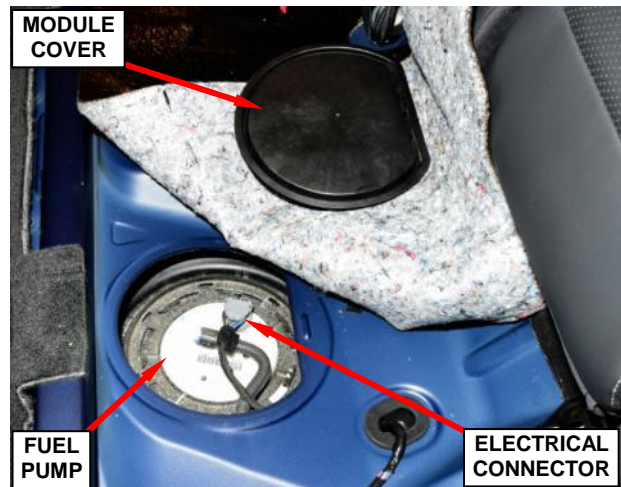

Figure 4 – Fuel Pump Module
10. Remove and save the fuel pump module cover (Figure 4).
11. Disconnect the electrical connector from the fuel pump module (Figure 4).